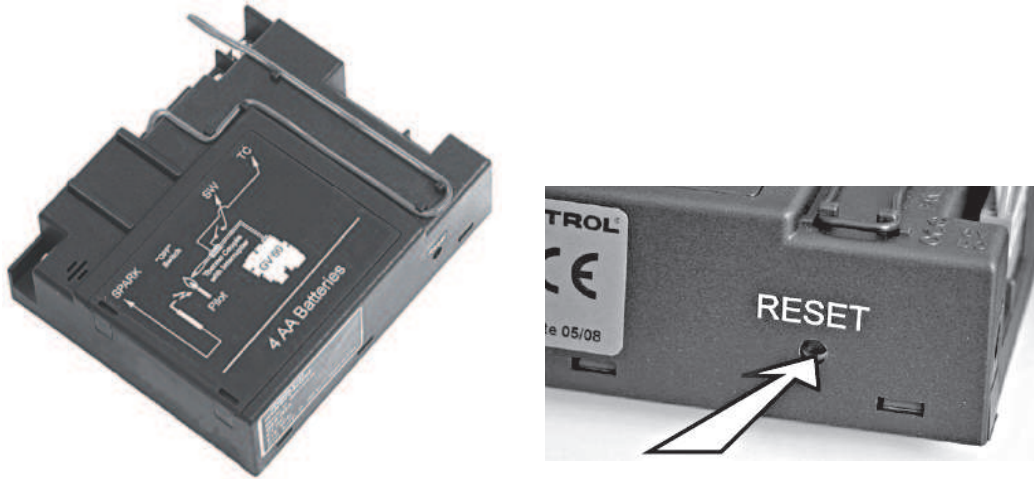

Figure 3: Receiver “RESET” button
- Press the "**RESET**" button on the receiver, and keep this pressed until 2 audio signals are heard. See figure 3.